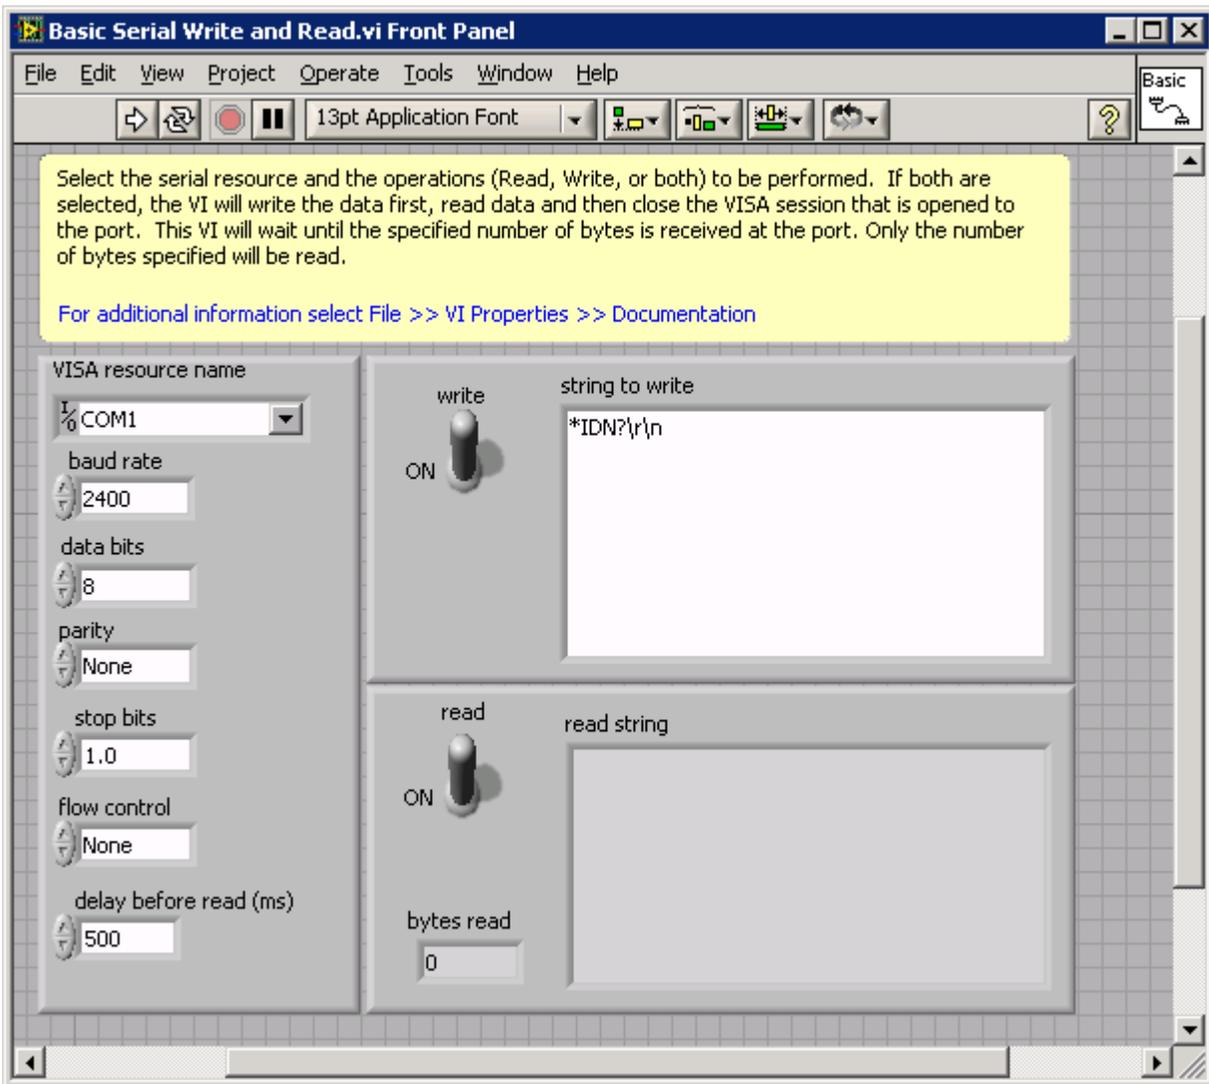

Figure 10. Basic Serial Write and Read example.
Refer to Figure 10.
6. Choose the appropriate settings for the rain gauge (Figure 10). Baud Rate is 2400 and everything else should be pretty standard, besides the COM port selection. This will change based on the port that the rain gauge is plugged into. Refer to Figure 10.